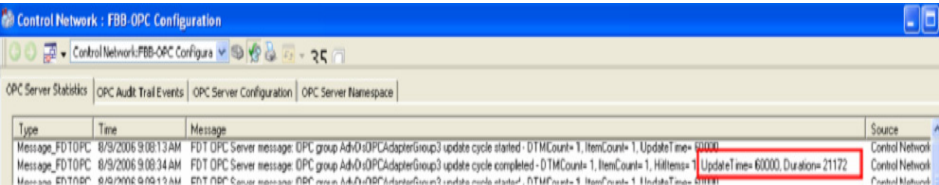

Figure 155. Cycle Time of the OPC Server PROFIBUS/HART
10. Wait according to the configured **Update Time**, till the **Duration Time** is displayed next to the **Update Time** entry as shown in Figure 155. If the **Duration Time** is less than the **Update Time**, the OPC Server is able to call all configured OPC items in one cycle. The OPC Server cycle time configured in **DIP HART Asset Monitor Data Source** aspect or **DIP PROFIBUS Asset Monitor Data Source** aspect (see above) shall be configured according the following rule: